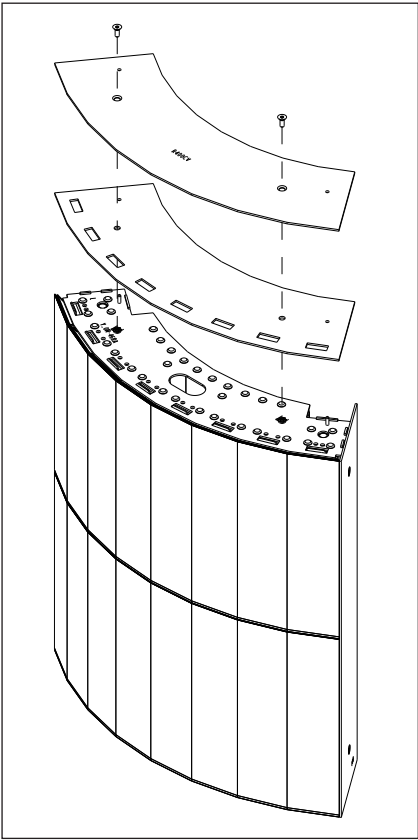

Figure 1: Bring Top Border Spacer & Top Border into Position
3. Bring the top border spacer and top border into position as shown in **Figure 1**. Use a 1/8" Allen wrench to install #10-32 machine screws (Daktronics part number HC-1484) through the border spacer and border into the pre-installed PEM nuts in the top/bottom members of the cabinet.